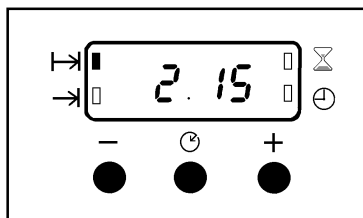

Fig.7.
- iii) To set the length of cooking time, press the Selector Control button () until the 'Cook Time' indicator neon () is illuminated. Press the increase control (+) until the required length of cooking time is displayed, e.g. 2 hrs 15 mins as Fig. 7. If necessary depress the decrease control (-) until the correct time interval is achieved.